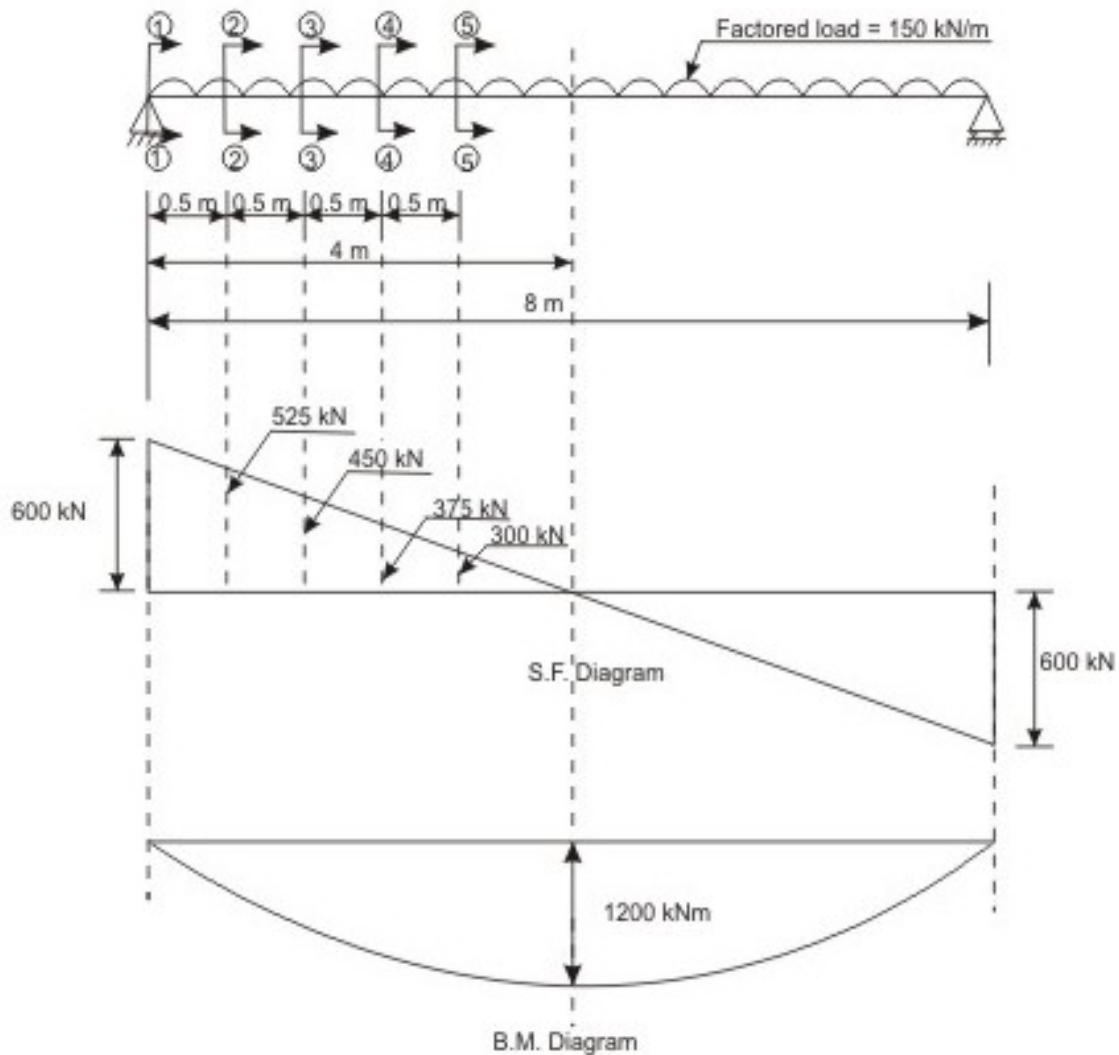

Fig. 6.14.7: B.M. & S.F. diagrams of Problem 3
The bending moment and shear force diagrams are shown in Fig. 6.14.7. At the mid-span
A_{st} at section 1-1 is determined ($= 3217 \text{ mm}^2 = 4\text{-}32\text{T}$) from Fig. 6.14.7 to calculate $\rho = A_{st} (100)/b_w d = 3217 (100)/300 (600) = 1.79\%$. From Table 6.1 of Lesson 13, τ_c is determined for $\rho = 1.79\%$ as 0.81 N/mm^2 . Table 6.2 of Lesson 13 gives $\tau_{c,max}$ for M 30 $= 3.5 \text{ N/mm}^2$.
V_u is 600 kN at section 1-1 from Fig.6.14.7 to get τ_v from Eq.6.1 of Lesson 13 as:
The magnitude of shear force for which shear reinforcement is needed (say, $V_{reinf.}$) is determined from Fig. 6.14.7. For section 1-1, from Eq. 6.4 of Lesson 13, $V_{reinf} = V_u - \tau_c b d = 600 - 0.81 (300) (600) = 454.2 \text{ kN}$.